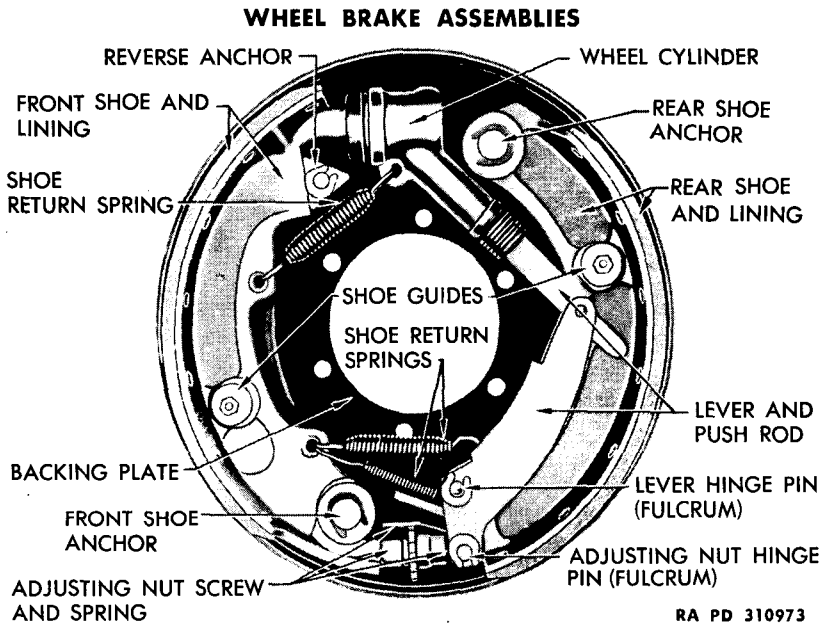

Figure 23 – Hi-Tork Brake Assembly
57. DESCRIPTION (fig. 23).
59. DISASSEMBLY (fig. 23).